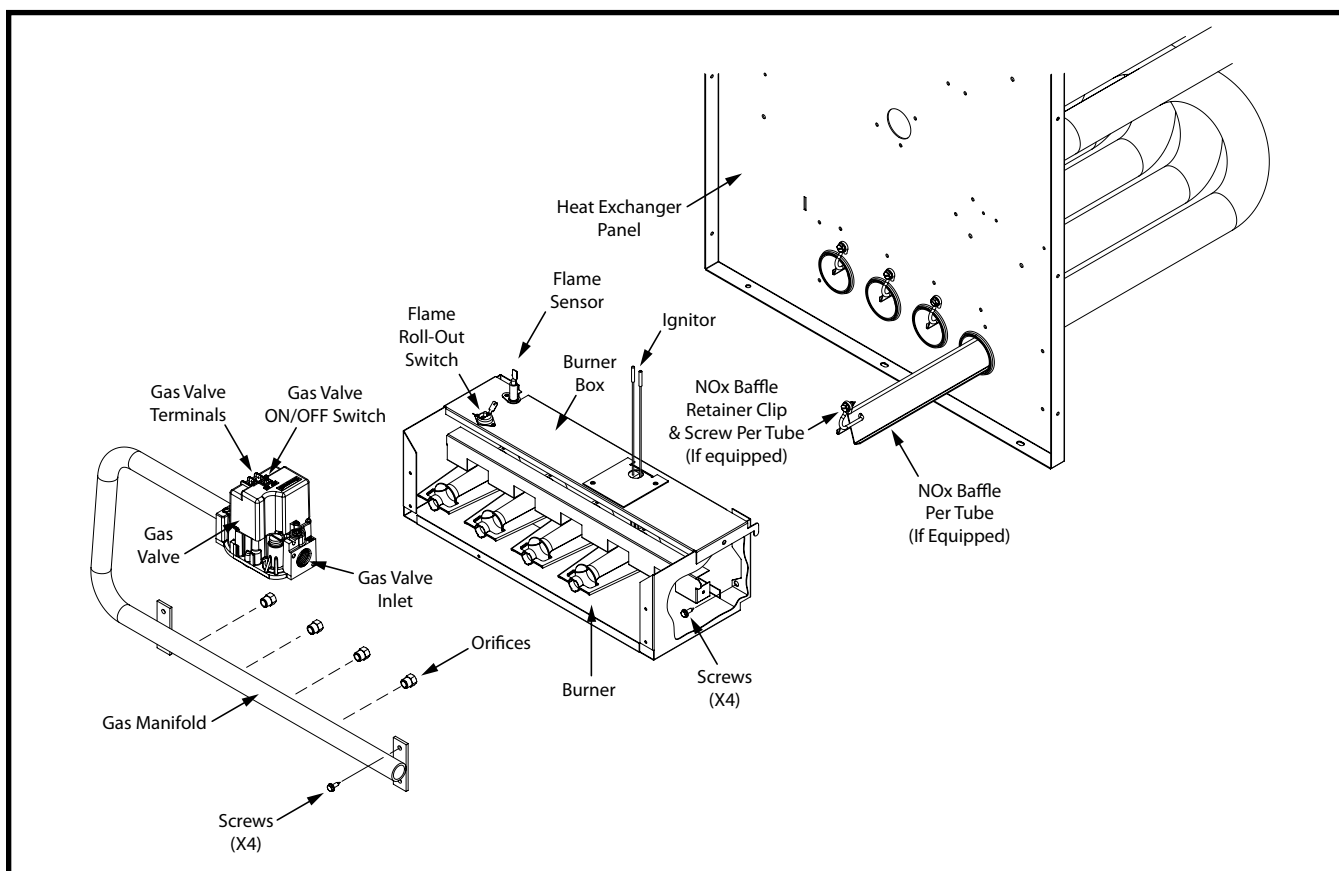

Figure 8. Burner & Manifold Assembly
11. Carefully remove the four screws inside the burner box (2 at each end), securing the complete burner box assembly to the heat exchanger panel as shown in Figure 8. **BE EXTREMELY CAREFUL NOT TO DAMAGE THE IGNITOR WHILE REMOVING THE BURNER ASSEMBLY.**
8. Carefully remove the four screws inside the burner box (2 at each end), securing the complete burner box assembly to the heat exchanger panel as shown in Figure 8 (page 23). **BE EXTREMELY CAREFUL NOT TO DAMAGE THE IGNITOR WHILE REMOVING THE BURNER ASSEMBLY.**